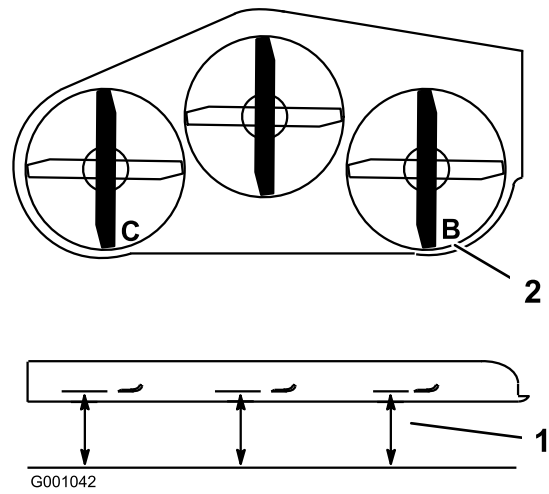

Figure 68
1. Position the **right** blade front-to-rear (Figure 68).
2. Measure the right blade at the **B** location, from a level surface to the cutting edge of the blade tip (Figure 68).
4. Position the left blade front-to-rear (Figure 68).
5. Measure the left blade at the **C** location (Figure 68), from a level surface to the cutting edge of the blade tip .